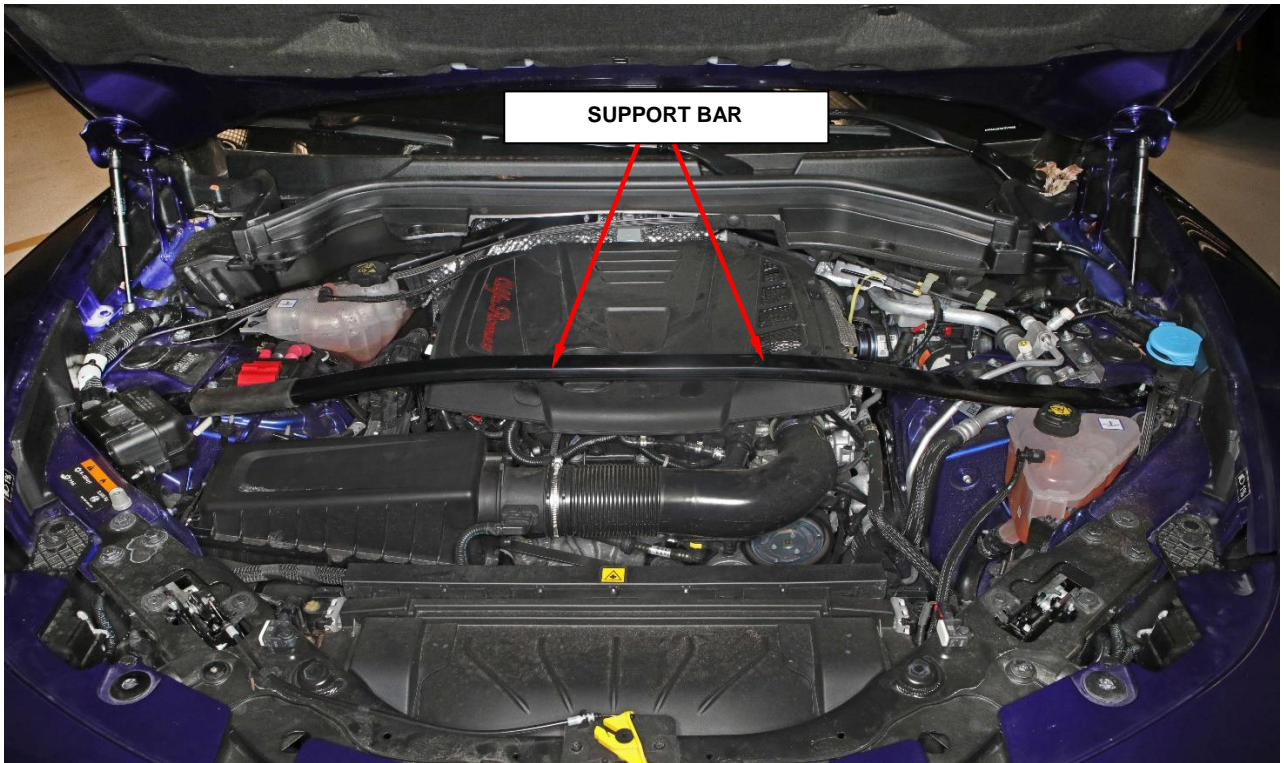

Figure 5 – Engine Compartment
8. **If equipped:** Remove the engine compartment cross support bar (Figure 5).
9. If equipped: Install the support bar and tighten the fasteners securely (Figure 5).